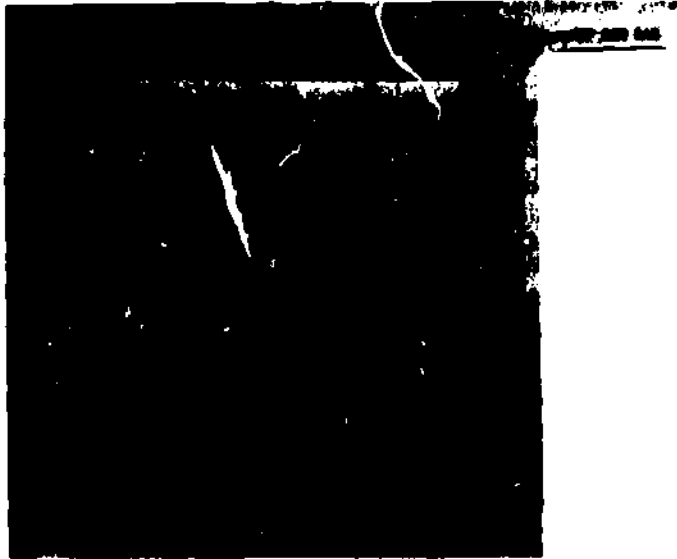

Fig 2-93. Door glass and frame.
d. **Glass.** Check for cracked glass in windshields and door glass. Visually inspect the weather seal for wear (fig 2-93). The weather seal not only seals the window around the frame, but also acts as a guide when the window is rolled up and down. If the seal/guide is badly worn, it can cause the window to be loose in the frame. When this happens, the glass is more likely to break, especially if the window is partially down and the door is slammed. If the seal is worn badly enough, it can also cause the window to slant left or right (not guided properly). If this happens, the window regulator (part that rolls the window up and down) will become bent and twisted and will prevent the window from going up and down. Windshields are incased in rubber but some also have a metal frame. Corrosion is ready to start rotting away at the frame if not prevented. If more than the removal of corrosion around metal frame is necessary after inspection, insure that it is noted on your maintenance form for supervisory action. Caution must be used when wire brushing or sanding near the edge of the frame. The glass could be scratched. Protect it with masking tape or heavy paper.